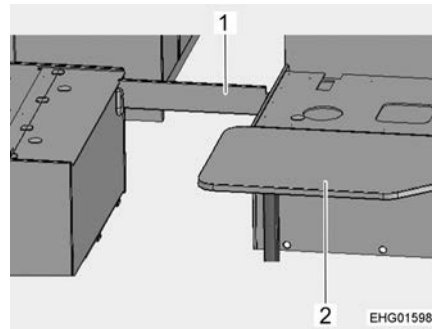

Fig. 145 During conversion
- Convert the table (Fig. 145,2) into a bed foundation (see section 6.7).
- Fit the support boards (Fig. 145,1).